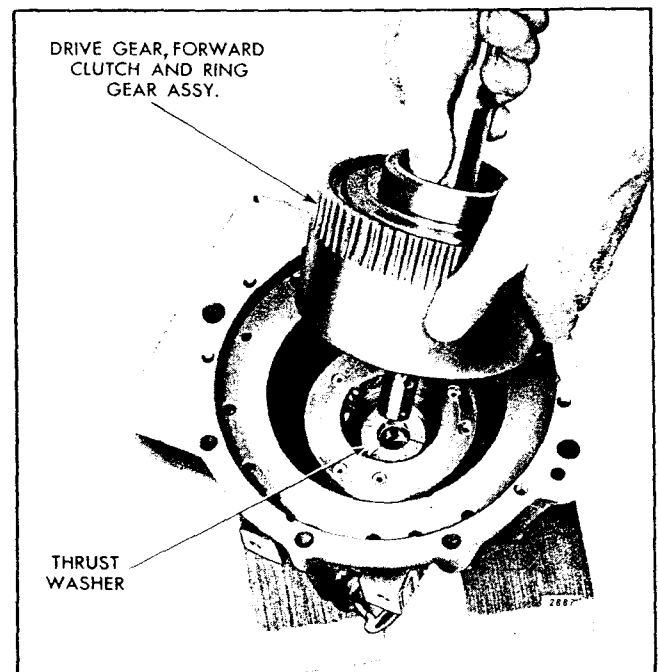

Fig. 71 - Installing Planetary Ring Gear, Forward Clutch and Drive Gear Assembly in Reverse Gear Housing
- b. Lubricate the small end of the drive gear input shaft with engine oil; then, position the planetary ring gear assembly over the top of the gear housing with the splined end of the drive gear input shaft up as shown in Fig. 71.